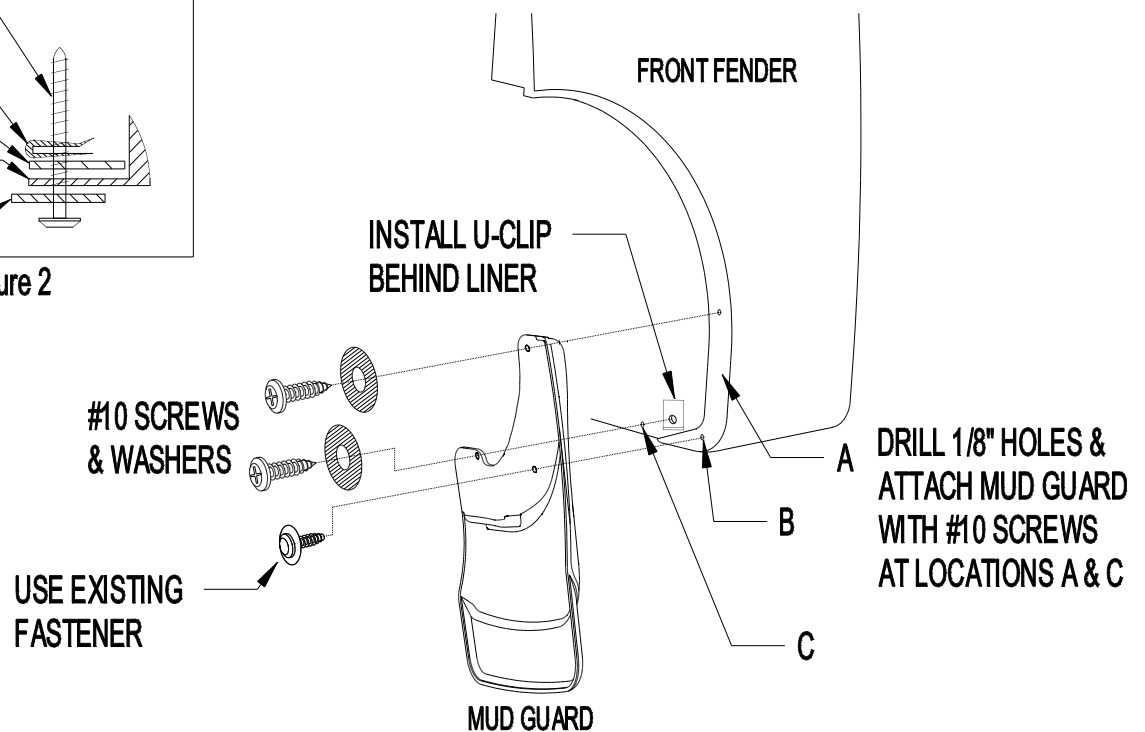

Figure 1
1. Remove the existing fastener from location B (Figure 1).
4. Install a #10 Screw and Fender Washer at location A (Figure 1).